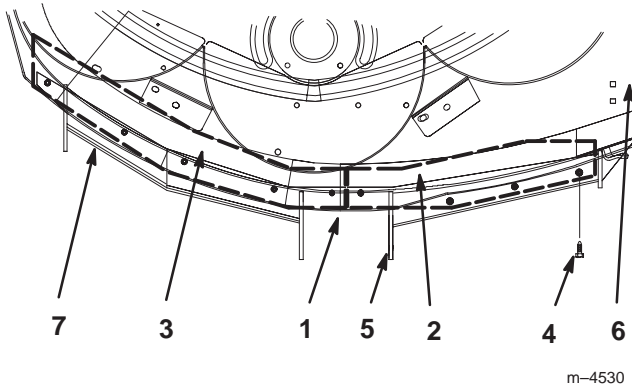

Figure 17
Note: All holes for installing Blowout baffles are drilled (Fig. 17).
7. Place baffles as shown in figure 17.
Note: The baffle edges need to be centered between front roller brackets (Fig. 17).
8. Install screws and tighten securely (Fig. 17).